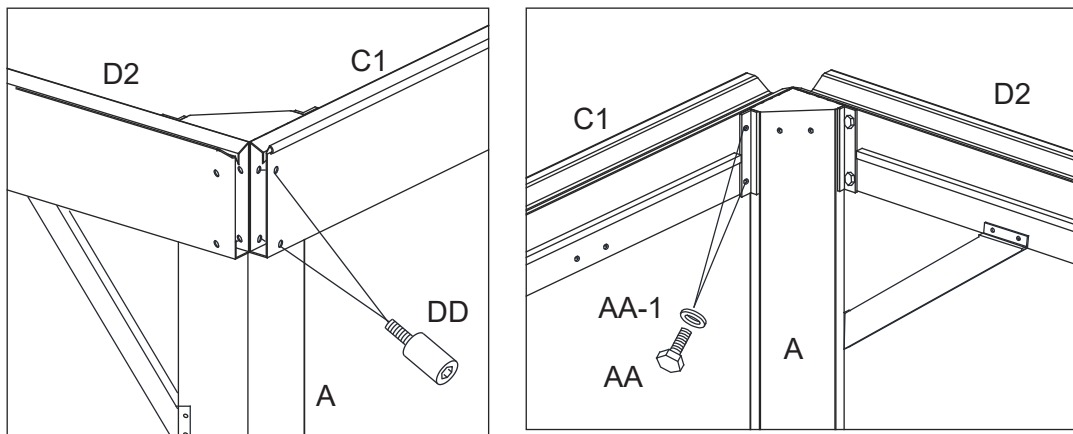
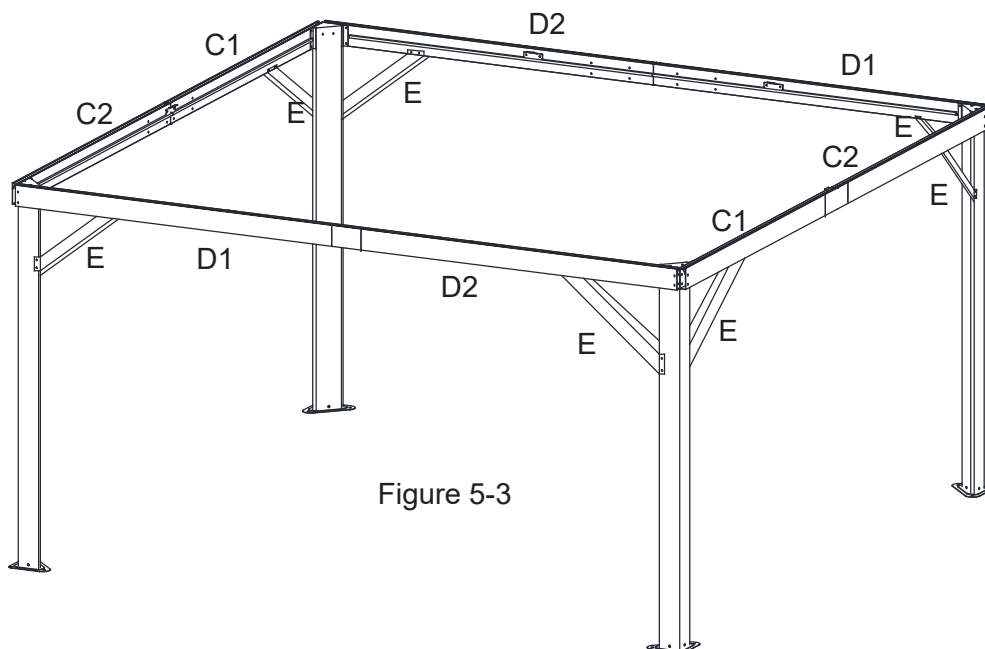

Figure 5-1
Figure 5-3
5.1. Attach Short Lintel (C1 and C2) to Corner Posts (A) first with Bolts (AA) and washer (AA-1) then with Bolts (DD). Tighten Bolts. Repeat for opposite side Short Lintels (C1 and C2). Tighten all Bolts. See Figure 5-1 and Figure 5-3.
5.3. Repeat for all Corner Posts and Lintels. Tighten All Bolts. See Figure 5-3.